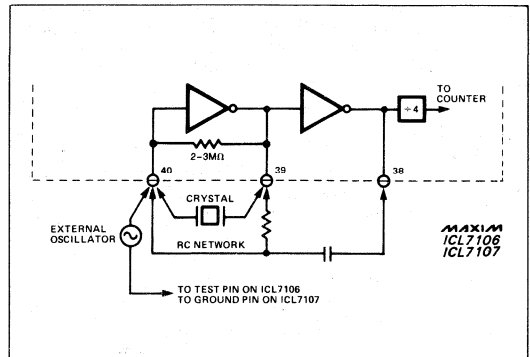
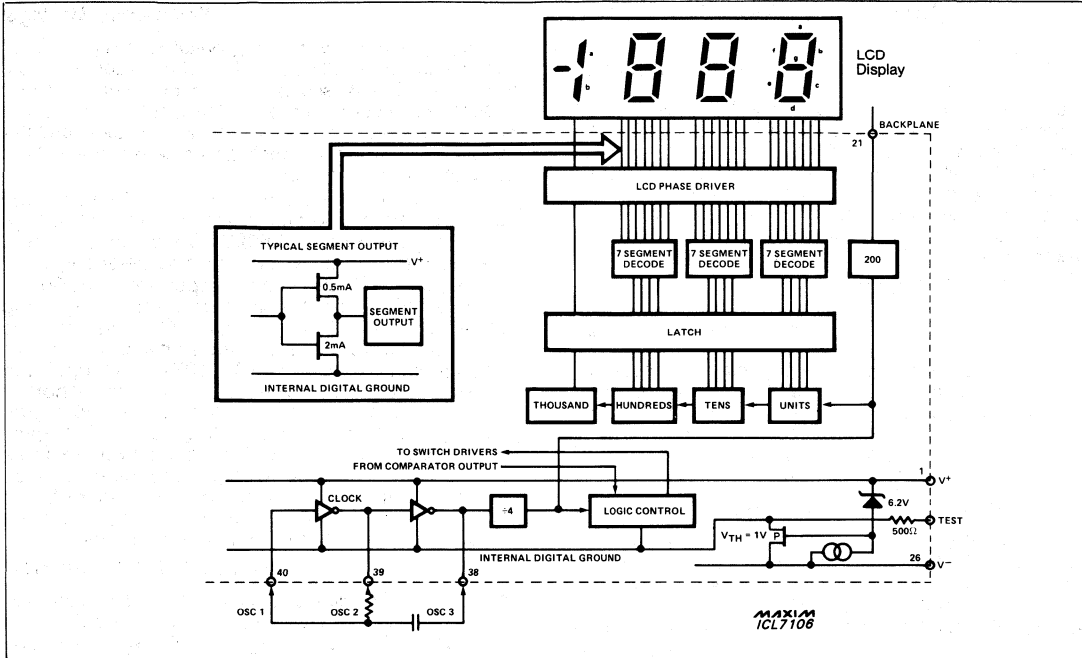

Figure 7. Clock Circuits
Figure 8. ICL7106 Digital Section
The digital section for the ICL7106 and ICL7107 is illustrated in Figures 8 and 9. In Figure 7, an internal digital ground is generated from a 6V zener diode and a large P-channel source follower. This supply is made stiff to absorb the large capacitive currents when the back plane (BP) voltage is switched. The BP frequency is calculated by dividing the clock frequency by 800. For example, with a clock frequency of 48kHz (3 readings per second), the backplane will be a 60Hz square wave with a nominal amplitude of 5V. The segments are driven at the same frequency and amplitude. Note that these are out-of-phase when the segment is ON and in-phase when OFF. Negligible dc voltage exists across the segments in either case.
The clocking circuitry for the ICL7106 and ICL7107 is illustrated in Figure 7. Three approaches can be used: